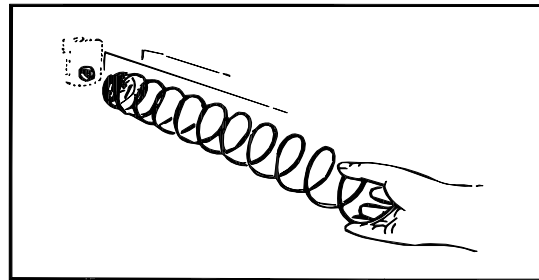

Figure 3: Removing and installing spiral.
**Right Hand Spirals:** Grasp the front of the spiral and turn it clockwise. Lift the spiral up and off of the spiral lock. When replacing a spiral attach it around the tab on the spiral lock and turn the spiral counterclockwise to lock it in place (see figure 3). Pull lightly on the front of the spiral to ensure it is locked in place.